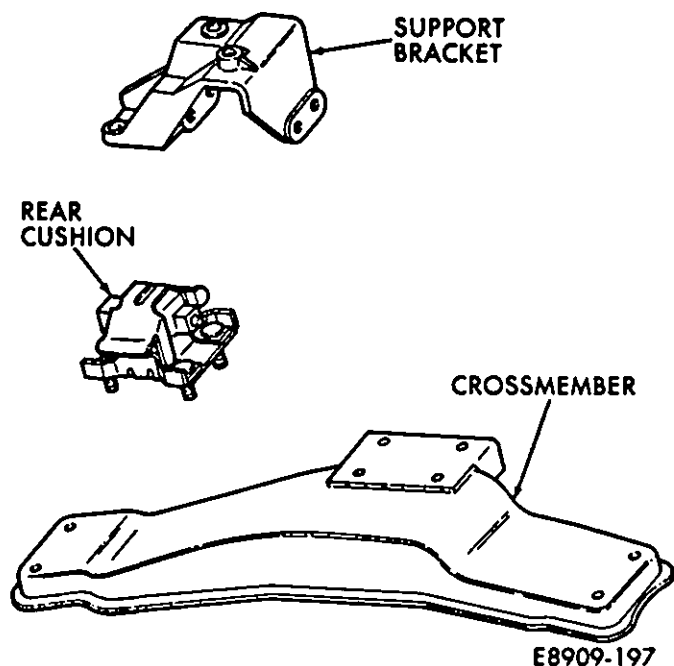

Fig. 7—Rear Cushion/Crossmember/Support Bracket Alignment
(3) Install the rear cushion and the crossmember. Align the cushion in the support bracket and install the cushion-to-bracket bolt and nut (Fig. 7) Do not tighten the bolt at this time.